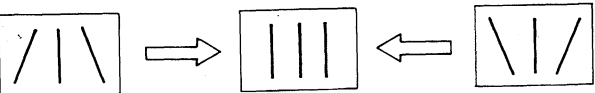

Fig. 31-5
4. Minimize the side pincushion tilt distortion with S.P.T (RV7) on the D board as shown in Fig 31-5.